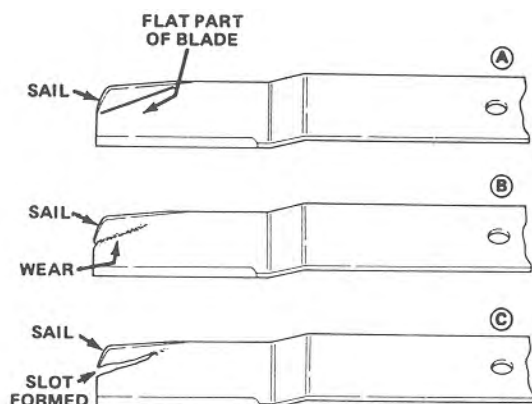

Figure 67
2. Carefully examine cutting ends of the blade, especially where the flat and sail (curved part) meet (Fig. 67-A). Since sand and abrasive material can wear the metal connecting the flat and sail portions, check the blade
before using the machine. If any wear is noticed (Fig. 67-B), replace the blade; refer to Removing the Cutting Unit Blade, page 52.